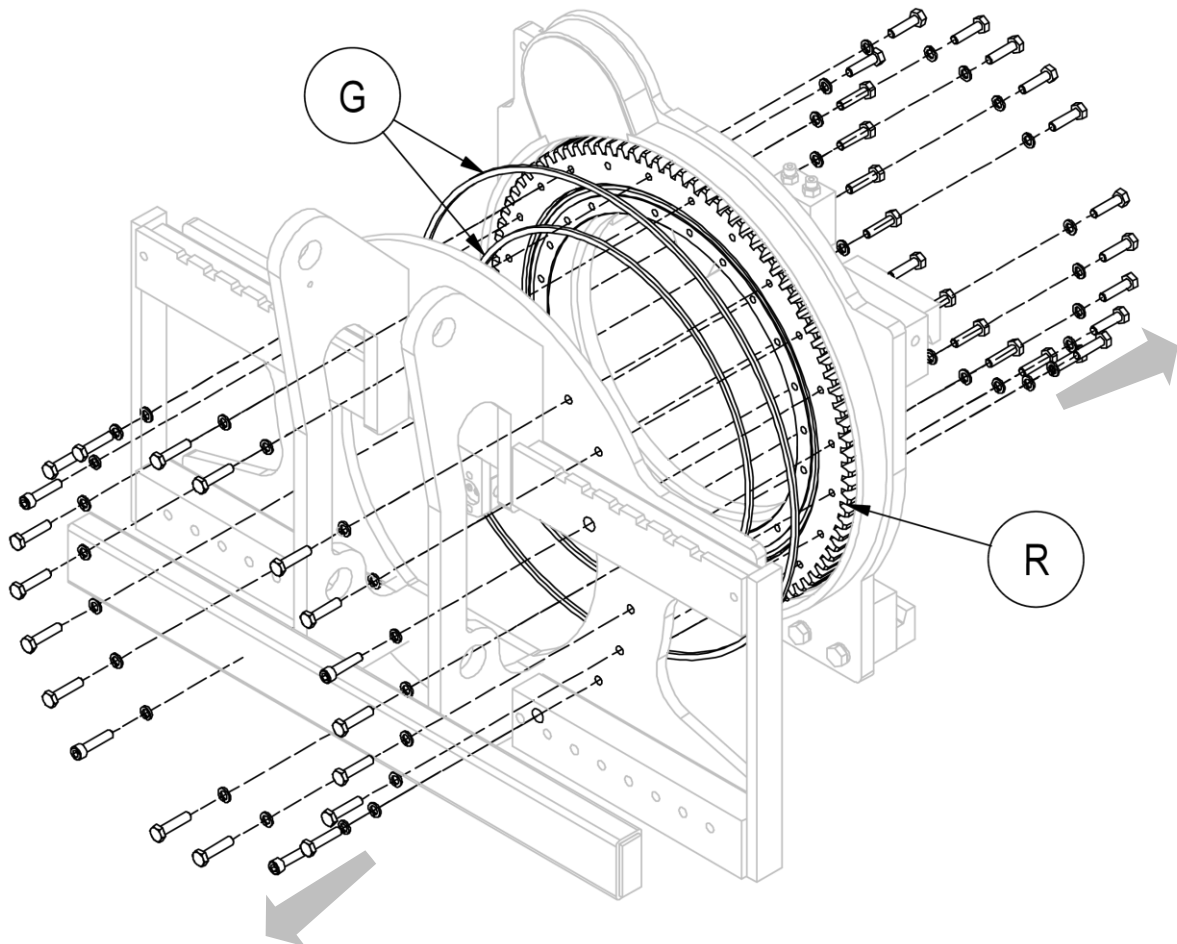

Figure 25
5. Remove the front part of the rotating body, ensuring that all parts are supported to carry out the procedure in safety (see *Figure 25*).
6. To remove the slewing ring **R**, the bolts on the rear of the equipment must also be removed (see *Figure 25*).